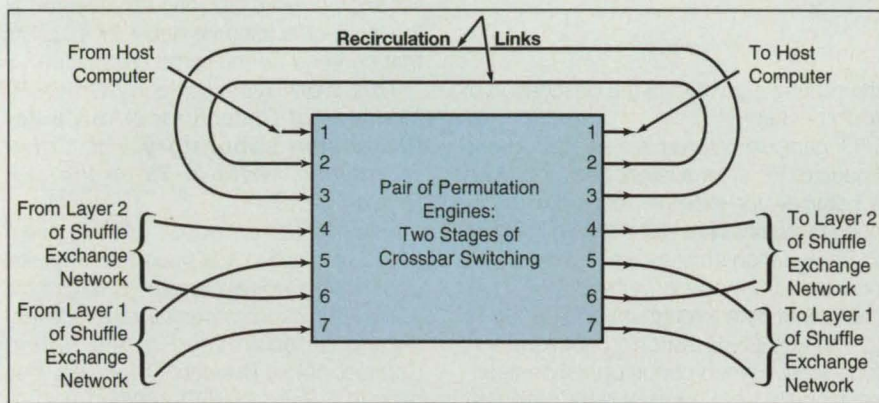

Figure 2. Two **Recirculation Links** in a switching node would provide for a two-stage queue with first-in/first-out characteristics.
Contention at a network output port is handled by recirculating queues. A recirculating queue can be implemented at each switching node (see Figure 2) by increasing the number of input/output ports by one for each queue. The extra input/output ports would be connected in a wraparound fashion allowing those packets that were not able to leave the node through the port to the host computer ("host port") to reenter the destination node. Thus, packets that were blocked from the host port at the destination node could try again without recirculating through the shuffle exchange network. The strategy would be followed to avoid packet deflections whenever possible, albeit at the expense of increased mean routing latency.
Figure 2. The **Single-Ring SN** is a unidirectional, wrap-around topology with 3×3 switching nodes. The direction of data flow is depicted by the arrows. One pair of node I/O ports connect to the host device with the remaining I/O ports connecting to other SN nodes.
Of particular interest is a switching node (made of PE's) for a larger network. Such a network, for example, could be the 8-node cyclic shufflenet (SN) shown in Figure 2. Permutation engines are located at the nodes of the network, where they route packets of data through the links of Figure 2. The use of PE switching nodes allows for packet asynchronous operation needed to build an all-optical data path net-